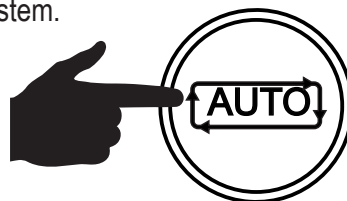

Figure 81. Auto Button
7. Press the **AUTO** button (Figure 81) on all controllers in the system.